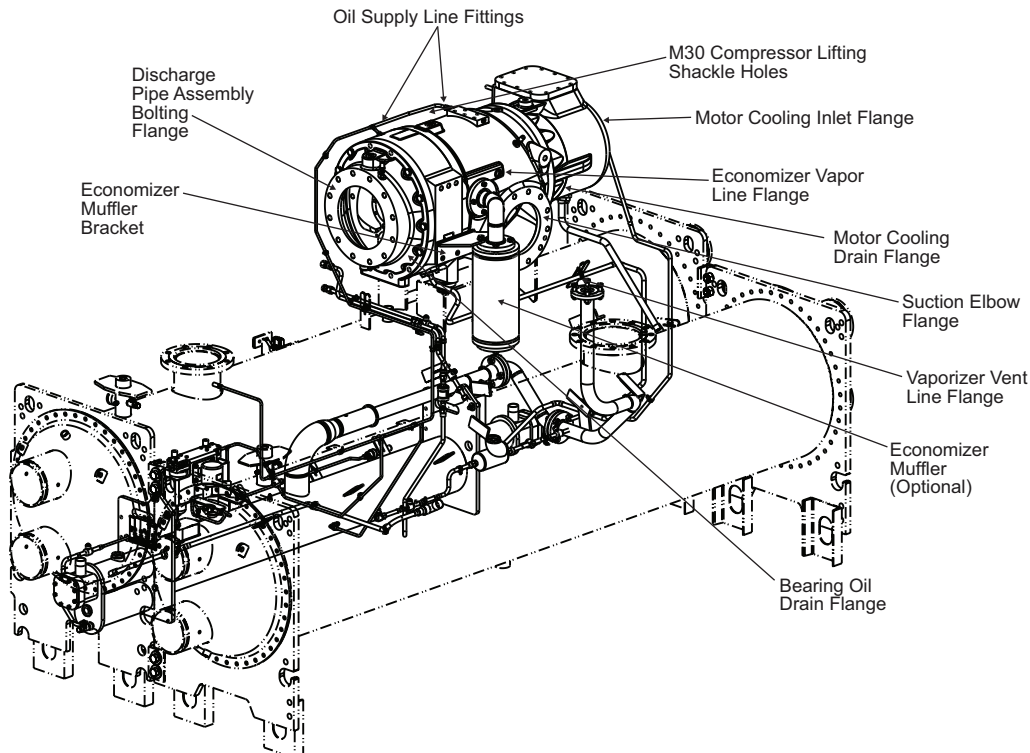
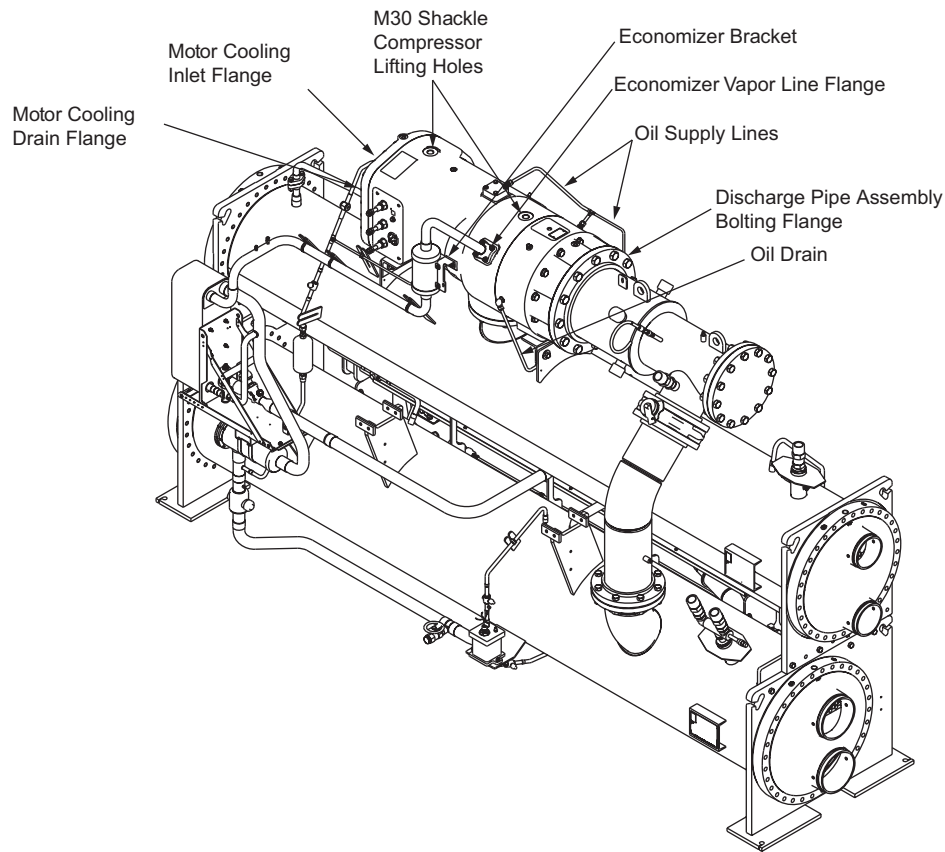

Fig. 28 — Compressor Removal, Q and R Compressors (Unit with R Compressor Shown)
Fig. 29 — Compressor Removal, P Compressor
1. Disconnect the oil supply line in 2 places (Fig. 28 or 29). Cap the oil lines and fittings.
2. Disconnect the motor cooling inlet flange, the motor cooling drain flange, optional economizer vapor line flange, and bearing oil drain flange (Fig. 28 and Fig. 29). Remove the economizer muffler bracket.
5. Carefully remove the perforated insulation cutouts that cover the compressor lifting points. See Fig. 28 and 29. Replace the lifting shackle thread protector after the compressor is re-installed to prevent insulation adhesive from fouling the threads.
6. Rig the compressor with lifting eyelets installed in the two M30 threaded holes provided in the top of the compressor housing (Fig. 28 and 29). Use only M30 forged eye bolts or M30 hoist rings with a sufficient working load limit to safely lift the compressor. The rubber vibration isolators may pull out of the compressor mounting bracket when the compressor is lifted off of the condenser. Applying leak detection soap solution to the outside of the vibration isolators will make it easier to press the isolators back into position.